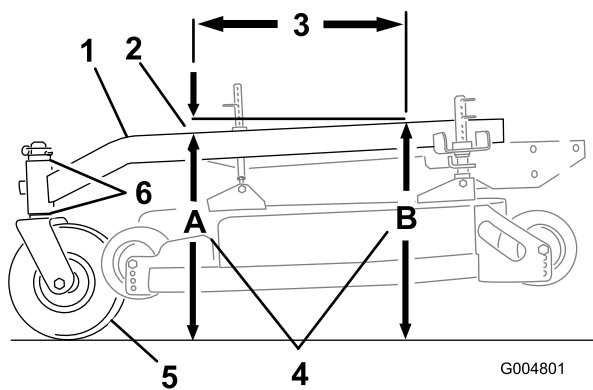

Figure 56
The carrier frame must have a pitch between 1/8 inch (3 mm) to 3/8 inch (9 mm) over the length of 24 inches (61 cm) on the carrier frame (Figure 56).
1. Measure out 24 inches (61 cm) on the carrier frame (Figure 56).
- Measure carrier frame height at location **A** (Figure 56).
- Measure carrier frame height at location **B** (Figure 56).
- The height at location **A** must be a 1/4-3/8 inch (6 mm -10 mm) lower than location **B** (Figure 56).
- If the carrier frame is not correct, move castor spacers to make it a 1/4-3/8 inch (6 -10 mm) pitch (Figure 56). Move spacers from top or bottom to make the correct pitch.